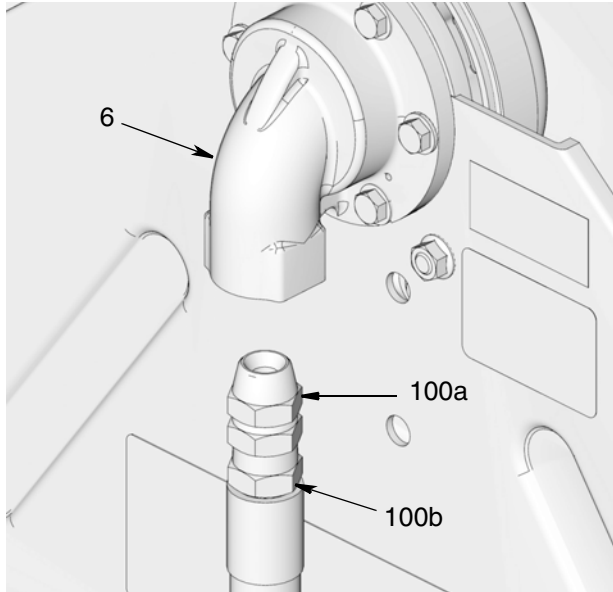

FIG. 12
4. Disconnect hose and union adapter (100a) from inlet (6) (FIG. 12).